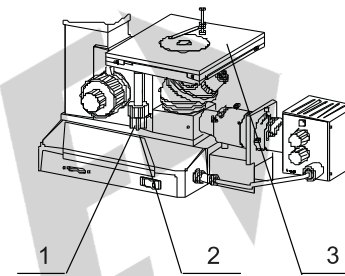

Figure 5
- 4. Mechanical Stage Controls, see figure 5, the coaxial transverse/longitudinal knob allow for easy adjustment.